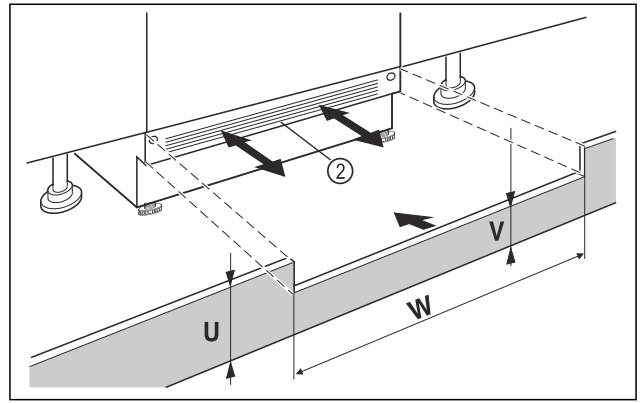

Fig. 40 Example illustration
- ▶ Put on the appliance base cover Fig. 40 (2) but do not fix it in place yet.
- ▶ If the base panel is visible Fig. 40 (2), pull it forwards so that the front edge of the ventilation grille and the unit base panel are level.
- ▶ If the base panel is concealed Fig. 40 (2), push it all the way back.
- ▶ Ensure that the ventilation slots are completely free: If necessary, cut the height of the unit base panel Fig. 40 (U) to size!
- ▷ Adjust the web height Fig. 40 (V) under the appliance base panel Fig. 40 (2) along the niche width Fig. 40 (W).